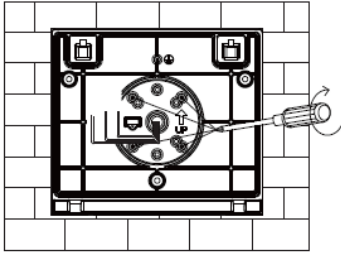

Fig. 1.5
6. Affix the mounting plate with screws (Fig. 1.5).